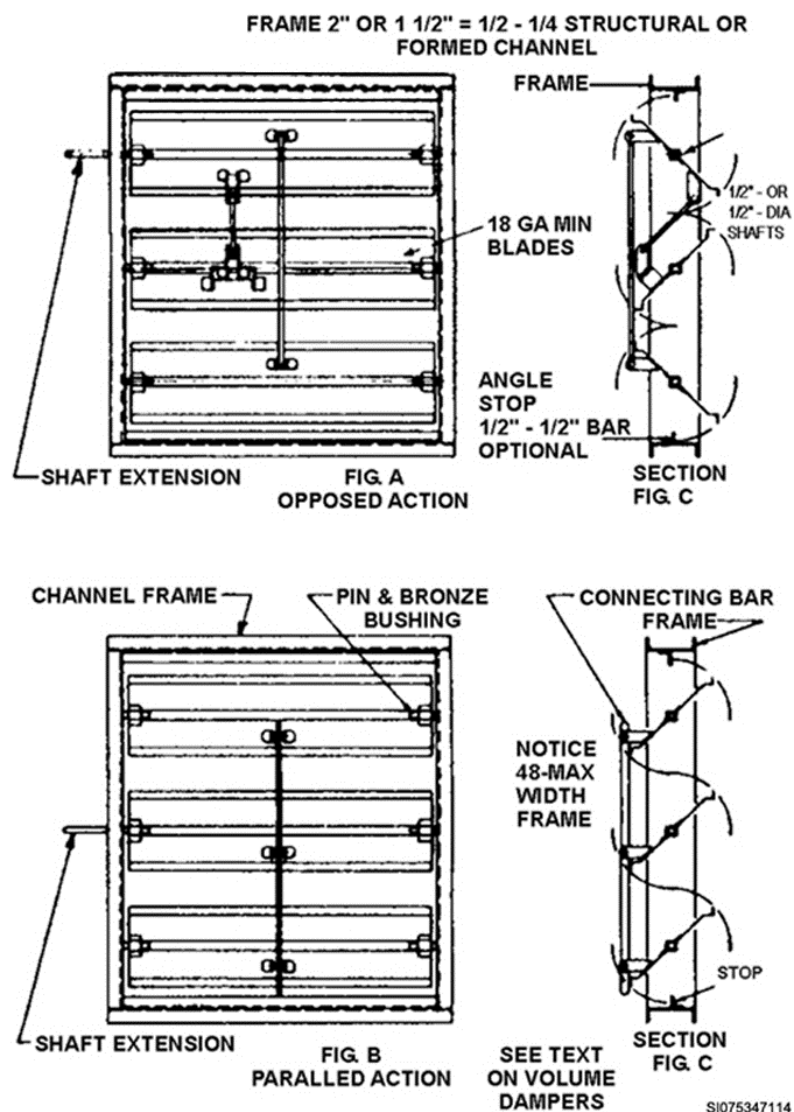

Figure 1-39. Multiblade volume dampers.
Volume dampers installed in branch ducts where the estimated static pressure is less than 0.5 inch of water gauge (in. wg) can be of a single-leaf type. Volume dampers should be installed in ductwork where the estimated system static pressure exceeds 0.5 in. wg according to top picture in figure 1-39 (A) (opposed action).
Figure 1-39, bottom picture (parallel action) shows one of two types of multiblade dampers—the parallel-blade (shown) and opposed-blade dampers. The terms *parallel* and *opposed* refer to the movement of the adjacent blades. In the parallel-blade damper, all of the blades move in parallel. The opposed-blade damper has a linkage that causes the adjacent blades to move in opposite directions.